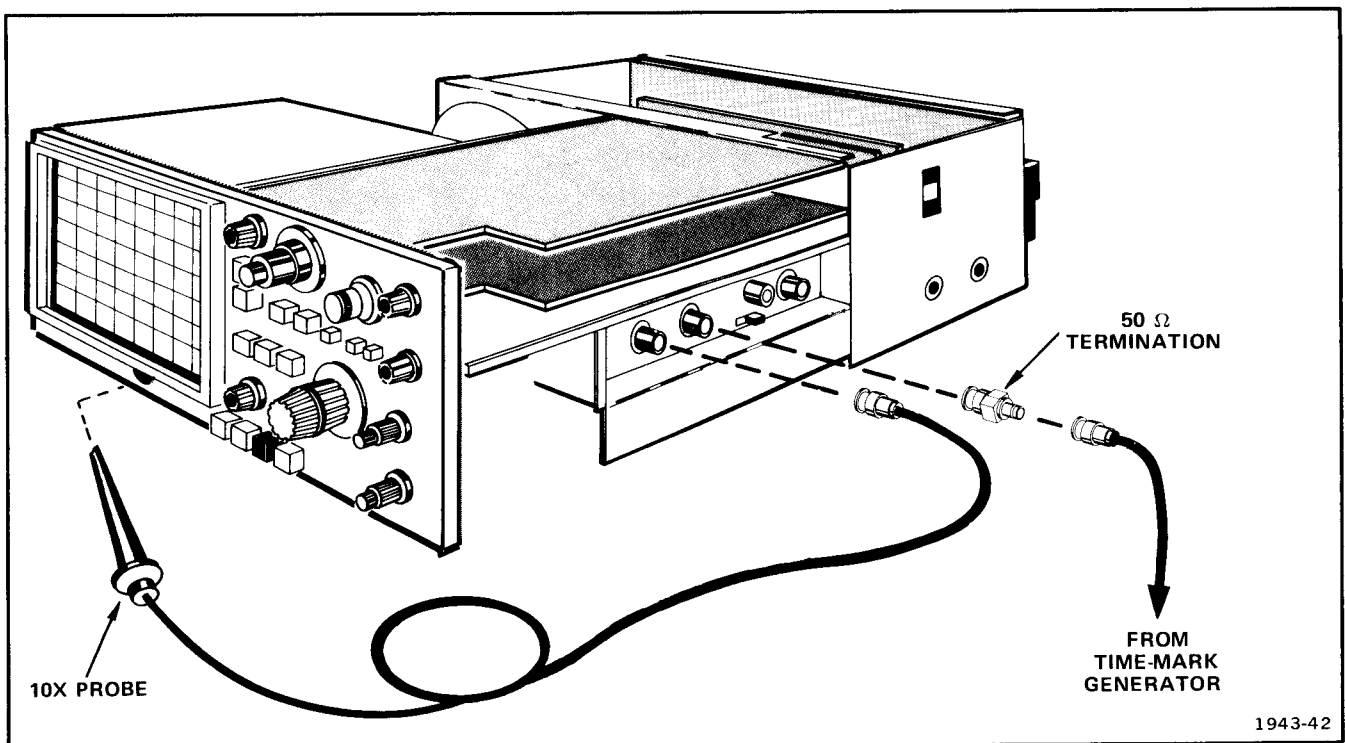

Fig. 6-18. Equipment setup.
- a. Connect test equipment as shown in Fig. 6-18 (probe to 0.5 V CAL OUT).